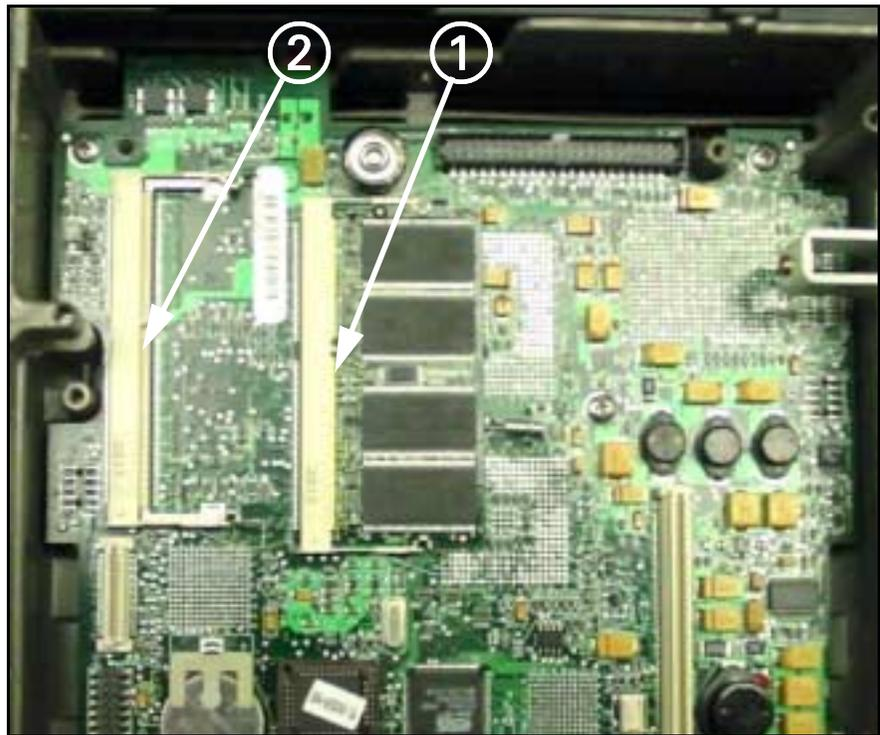

Figure 5-9 Memory slots
6. Lift defective memory module ① or ② (not installed in Figure 5-9) out of memory slot and remove module.
7. Align pins on replacement memory module to connector on motherboard (① or ② in Figure 5-9).